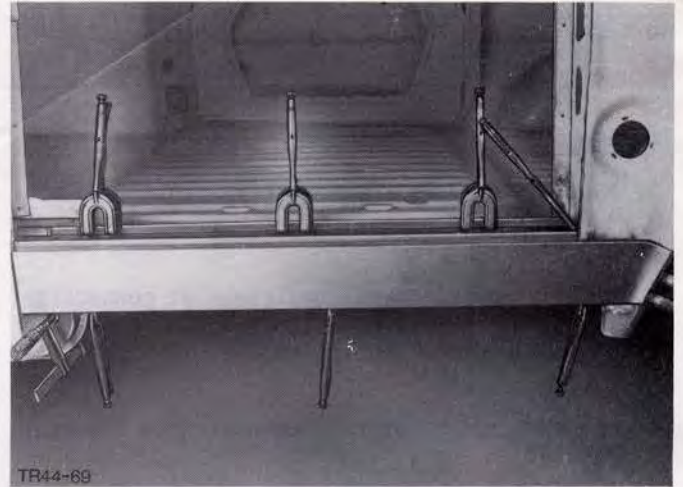

Fig.126. Position rocker panel and secure with clamps.
7. Position rocker panel and secure with clamps and cramps, Fig.126.